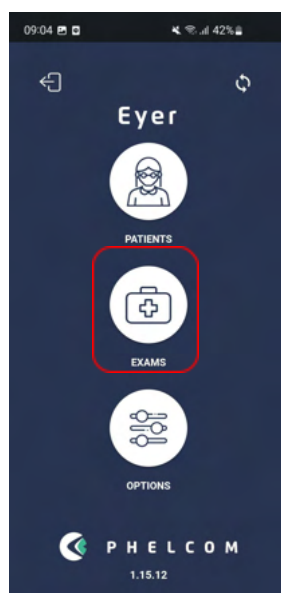
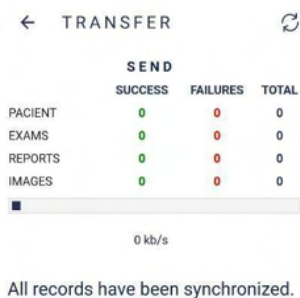

Figure 25 - Home screen - Select exams
Figure 33 – Device transfer status
1. On the home page, the user must click on "Exams", as shown in figure 25
After login, a screen displays, figure 25. It enables accessing all system functions: patients, exams, and options. Click the synchronization icon , figure 25, to check transfer status, figure 33.
Access option 1, "Patients", in the main screen, figure 25, to register, visualize, alter information, as well as carry out exams and diagnostics through patient information.
Selecting icon 1, figure 25, displays a screen as in figure 34. Here, a list of registered patient names displays. Activate button  and insert patient information. Highlighted fields in figure 35 must be filled in.